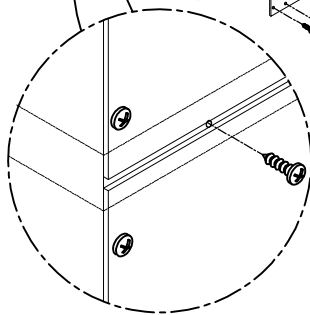

FIG.12 A
- A. Using a Phillips head screw driver, attach the Back Panel (G) to the back of the Hutch using the 35 wood screws (N) as shown in FIG.12 A.